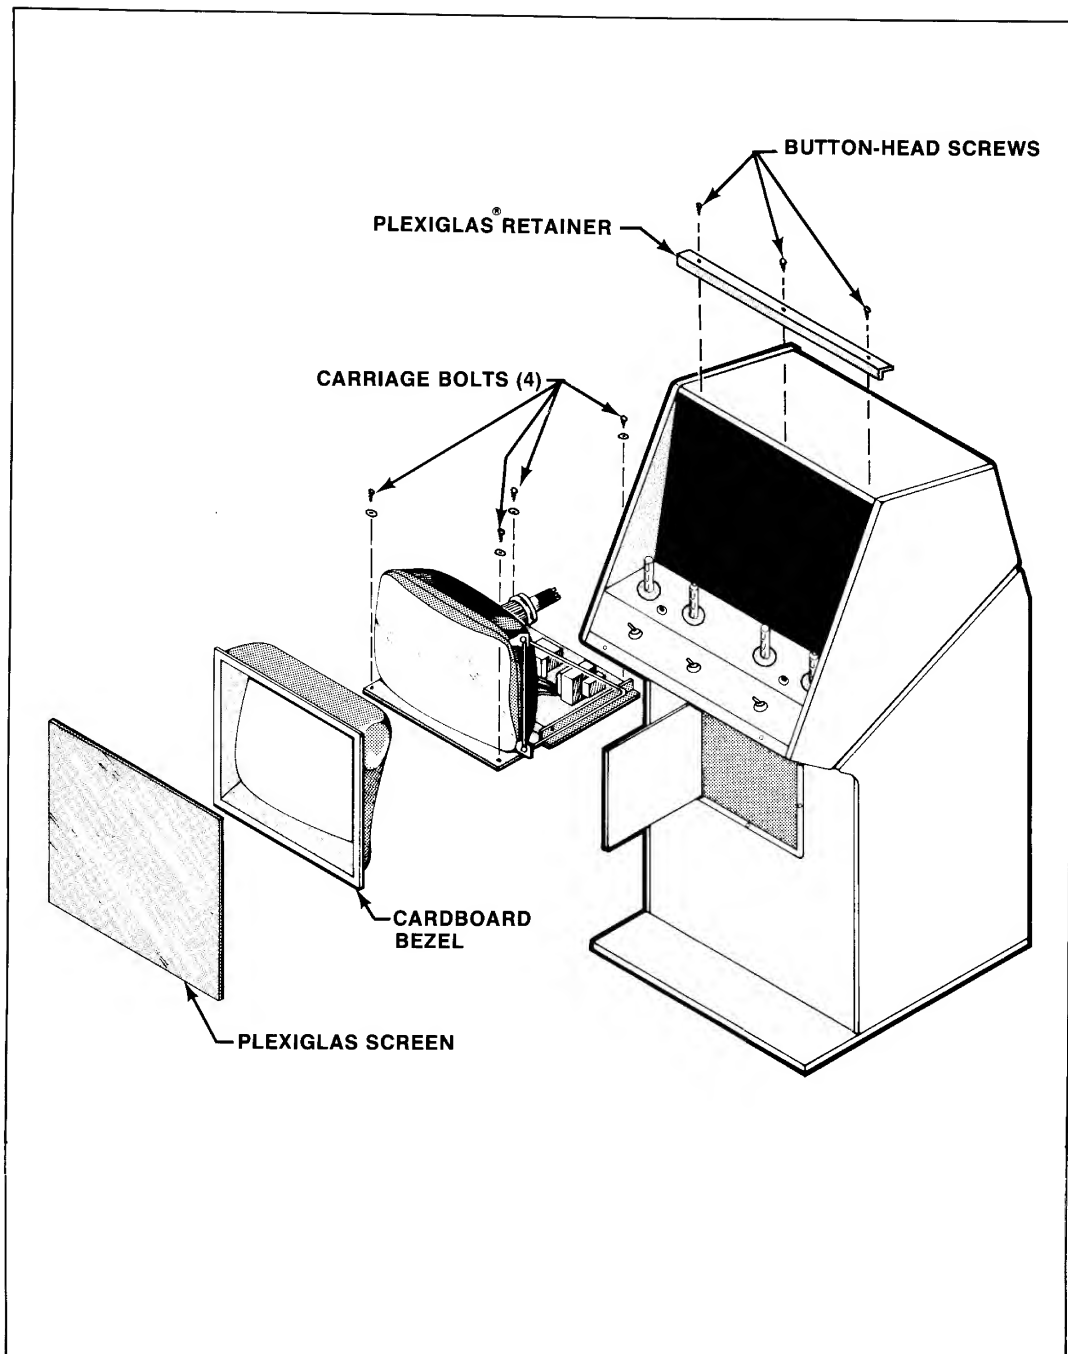

Figure 3-10 TV Monitor Removal
D. TV MONITOR REMOVAL (Refer to Figure 3-10)